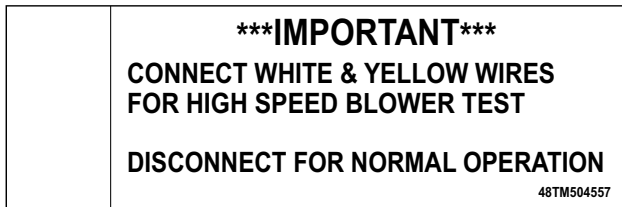

Fig. 20 — High Speed Test Label
4. Locate and connect the WHT and YEL wires extending from the VFD. The two wires are bundled together using the label shown in Fig. 20.